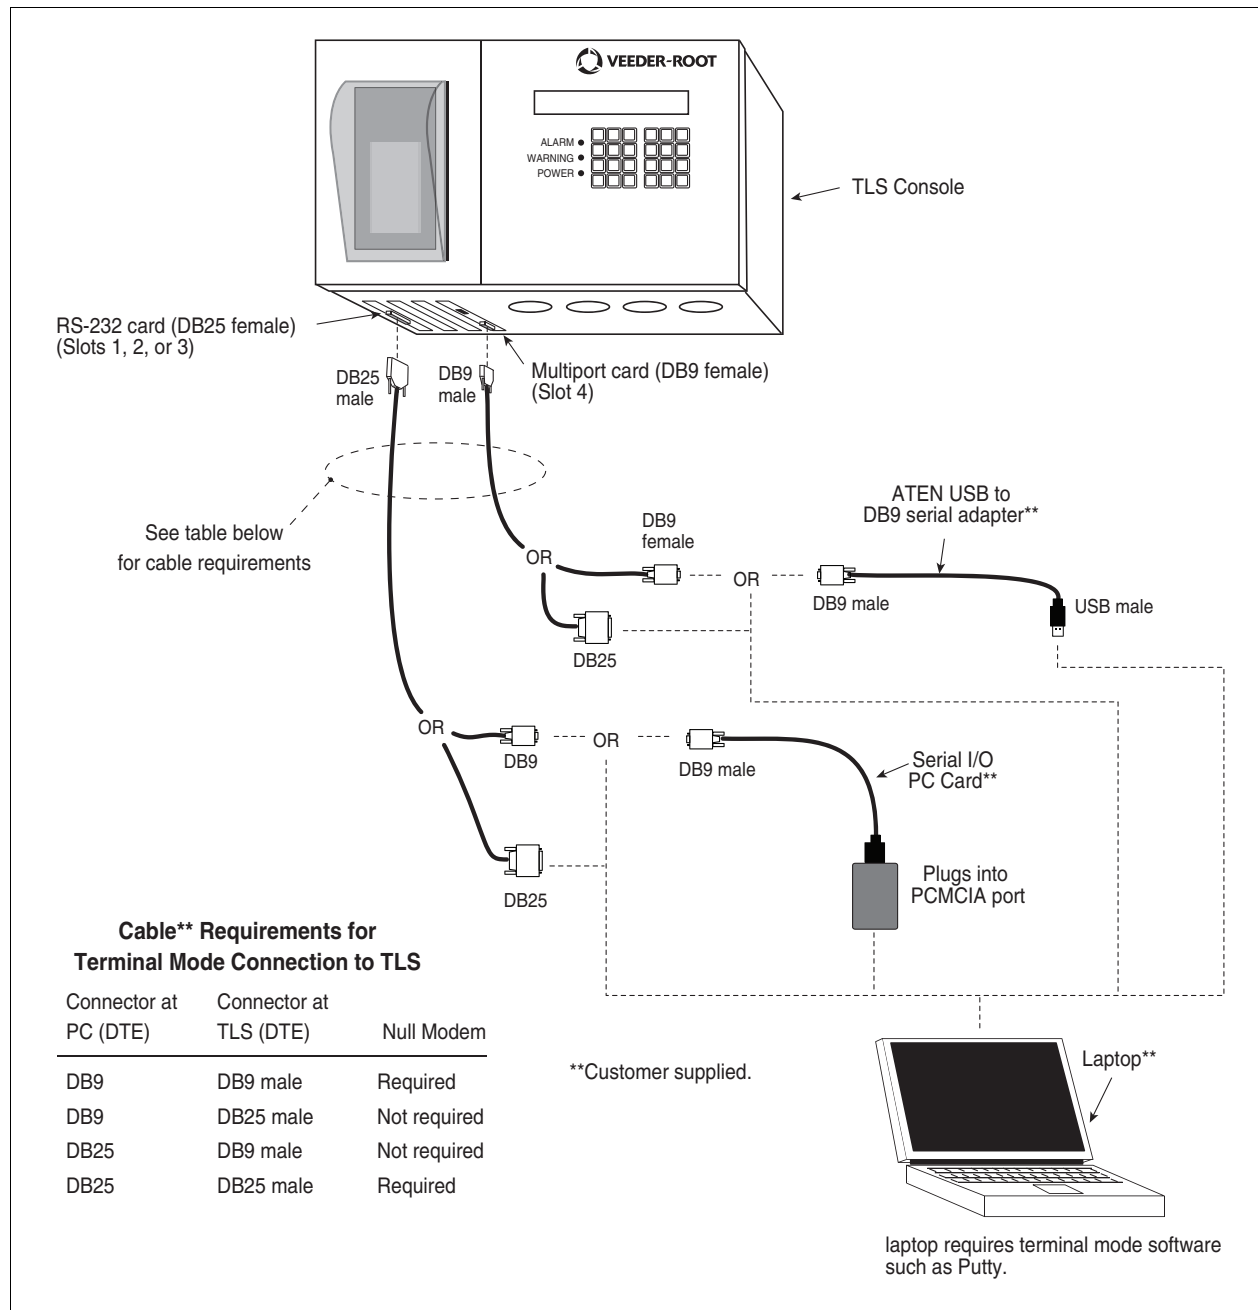

Figure 12. Connecting laptop to TLS console for serial communication
1. Connect your laptop to the TLS console's RS-232 or Multiport card using one of the methods shown in the examples in Figure 12 below.